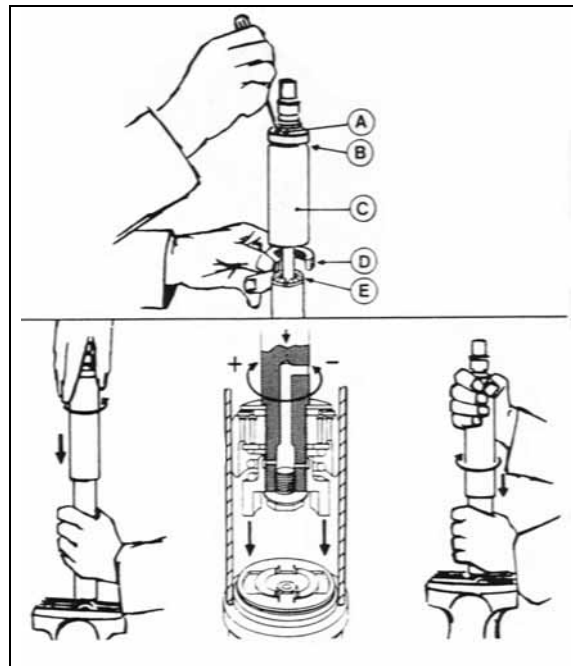

FIGURE 17: DAMPER
2. Fully close the damper while turning the dust cap or piston rod slowly CCW until it is felt that the cams of the adjusting nut engage in the recesses of the foot valve assembly (Fig. 17).
Note: In figure 17, if there is an indentation (B) in the dust cap (C) and the cover shows two holes (A), the damper is fitted with a bump rubber (D). If so, fully extend the damper and insert a round bar or screwdriver through the holes. Push the bump rubber down and remove. Remove the split plastic collar (E) (if fitted) from the piston rod.
Note: Where a bump rubber was installed, refit same inside the dust cap and by fully closing the damper, the rubber will seat again at top of the dust cap. Refit the split plastic collar E (Fig. 17)